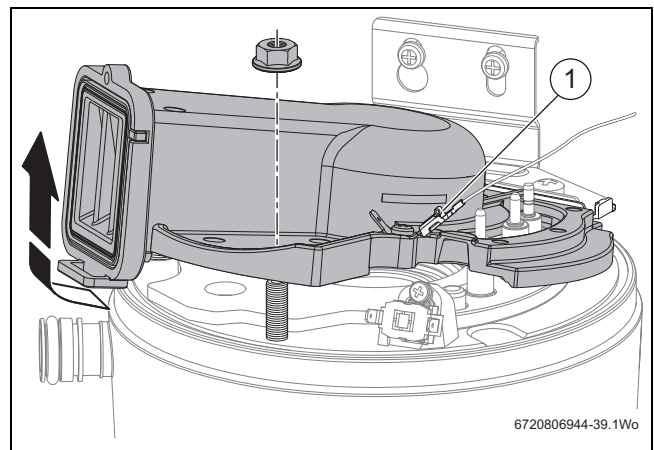

Fig. 74 Air/gas manifold clamping plate removal
Refer to figure 74.
- ▶ Remove the air/gas manifold clamping plate as shown in figure 74.